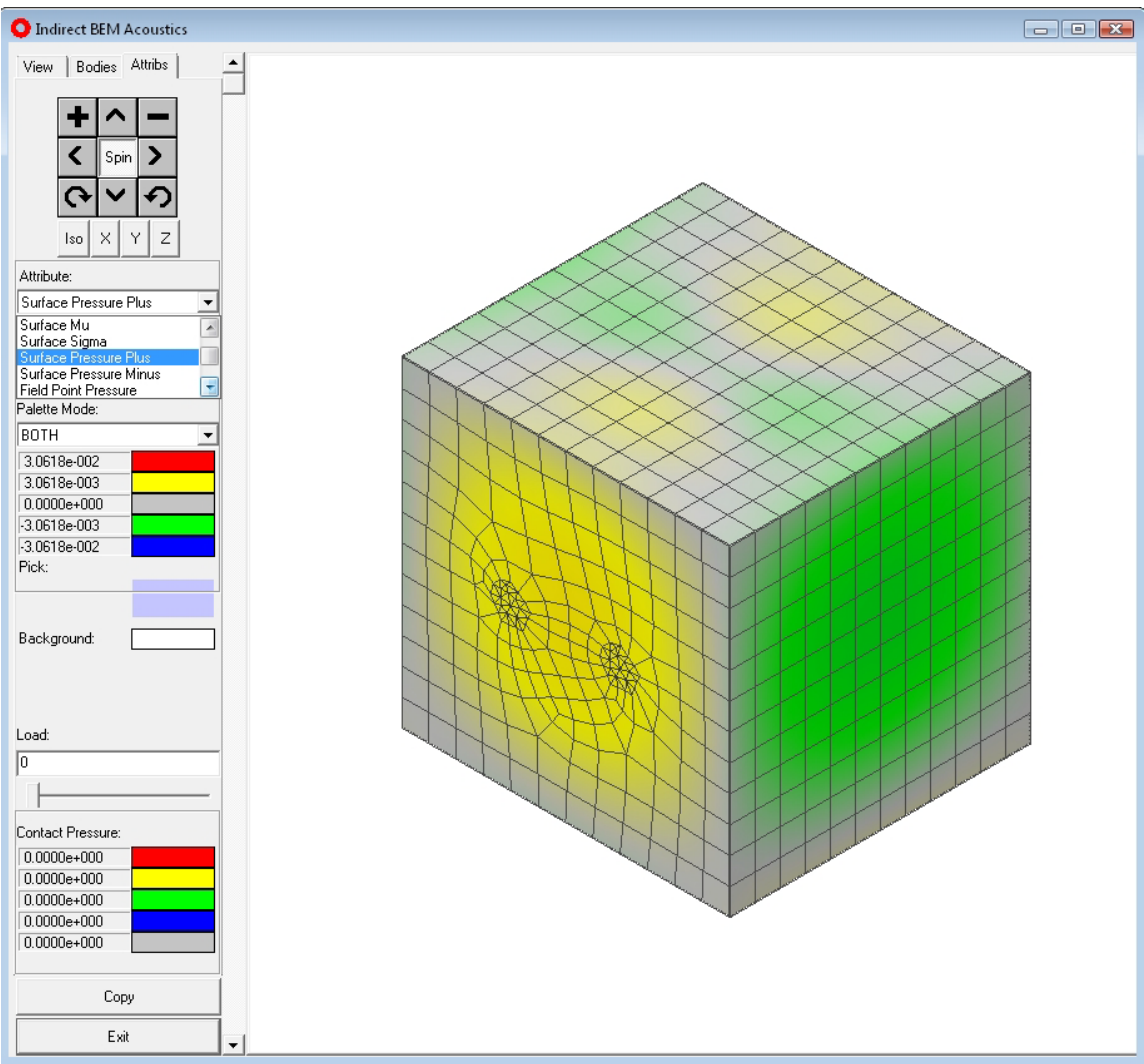

Figure 7.54 IGlass viewer showing sound pressure distribution on the exterior surface of a housing.
- For IGlass file: double-click on the IGlass file to open it using IGlass Viewer (Figure 7.54).